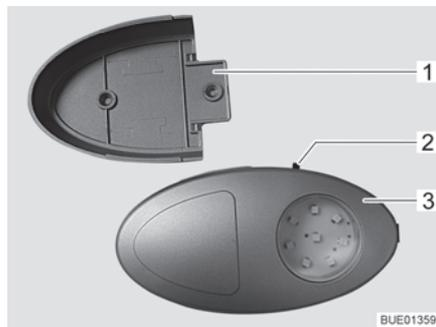

Fig. 85 Wardrobe light/torch
- ▷ The wardrobe light can be removed from its holder (Fig. 85,1) and used as a torch.
The On/Off switch (Fig. 85,2) is located directly on the wardrobe light (Fig. 85,3).